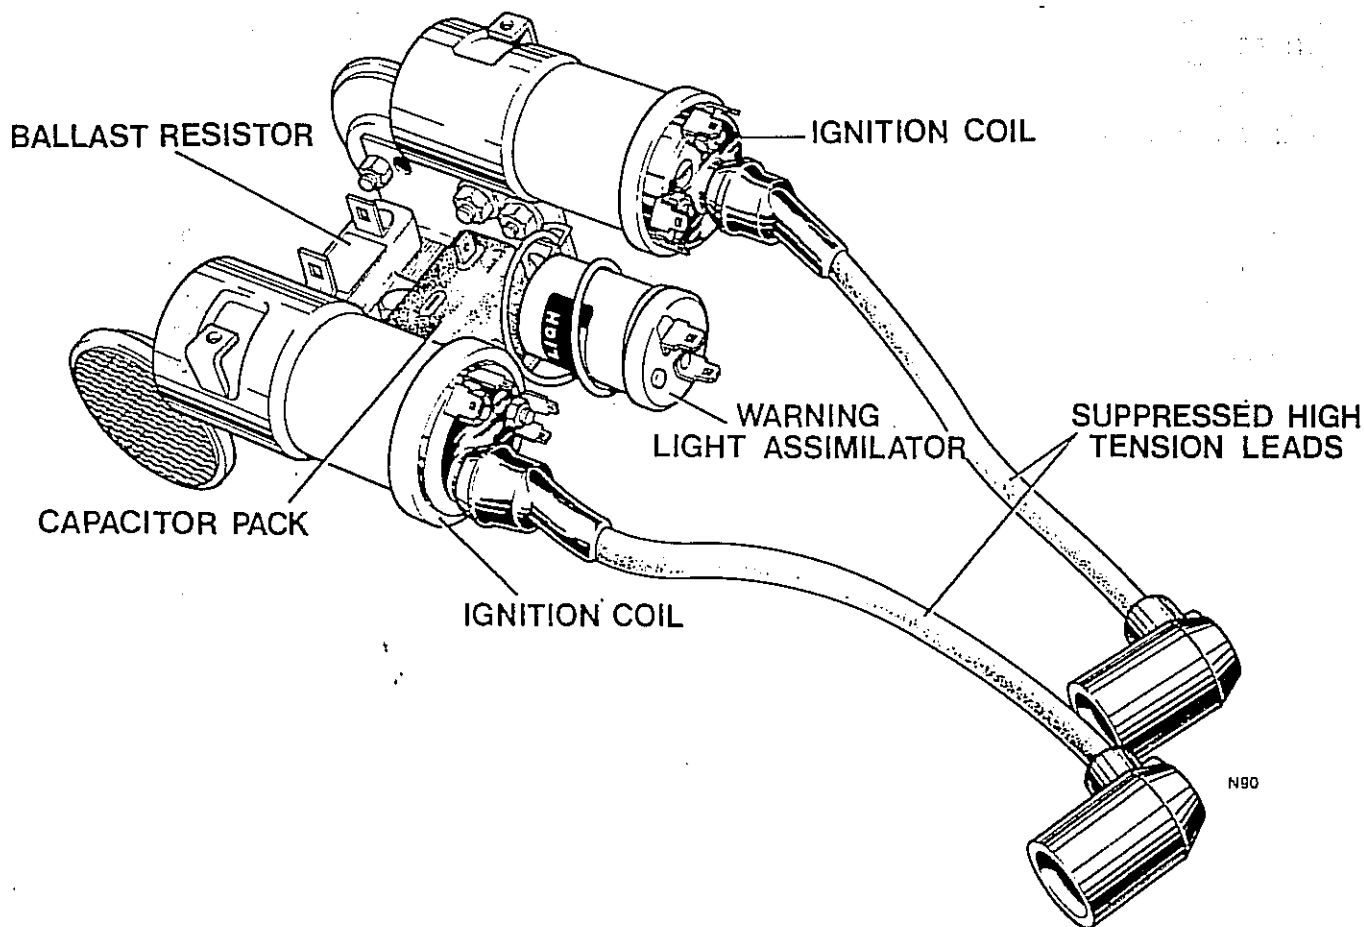

Fig. F6 Coil cluster from rear beneath
- 18 Refit the coil cluster, (the cluster is illustrated in Fig. F6) and reconnect the contact breaker leads colour to colour.